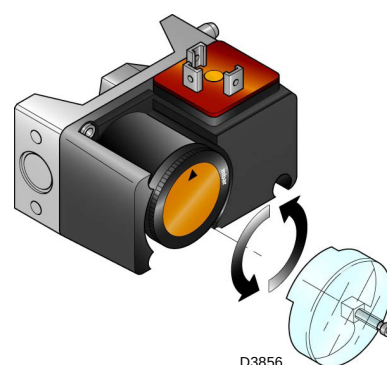

Fig. 30
- Adjust the maximum gas pressure switch (Fig. 30) to the end of the scale.
Adjust the maximum gas pressure switch after performing all other burner adjustments with the maximum gas pressure switch set to the end of the scale (Fig. 30).